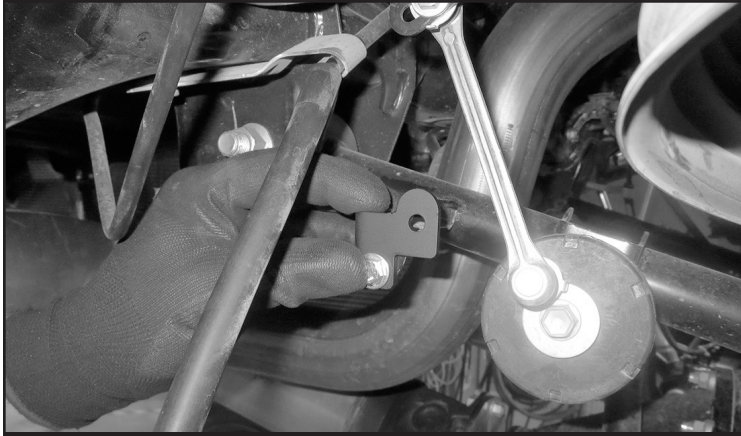

FIGURE 23 - STEP 28
28. Install FT70316 (Driver Air Spring Sensor Bracket) to the upper link using the supplied 1/4" hardware. **SEE FIGURE 23 for orientation.**